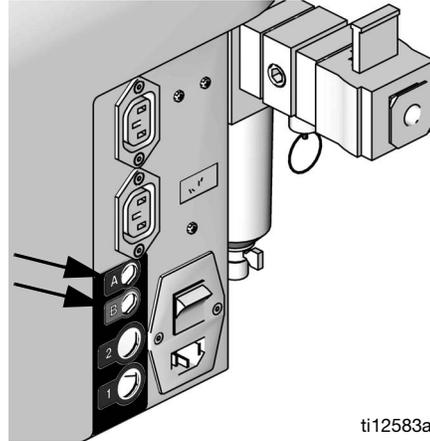

FIG. 6: Tank Refill Kit Power Source
2. For tank refill kits installed on the A side tank, plug the tank refill kit power cord into the “A” connector located at the back of the machine. See FIG. 6.
For tank refill kits installed on the B side tank, plug the tank refill kit power cord into the “B” connector located at the back of the machine. See FIG. 6.